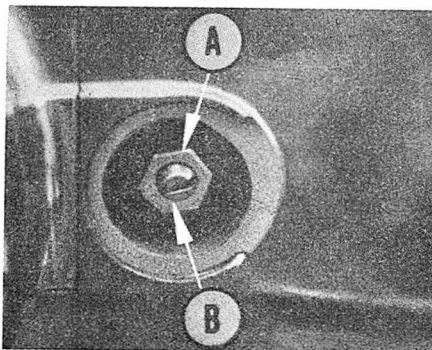

Fig. S10-5—After removing rubber plug on left engine cover, loosen lock nut (A) and turn screw (B) to adjust clutch.
cover. Loosen lock nut (A—Fig. S10-5) and turn adjusting screw (B) until screw just contacts push rod (slight resistance will be felt). Back screw (B) out ½ turn and tighten lock nut (A). Adjust clutch control cable to obtain ½ inch free play in clutch lever at pivot at control handle.